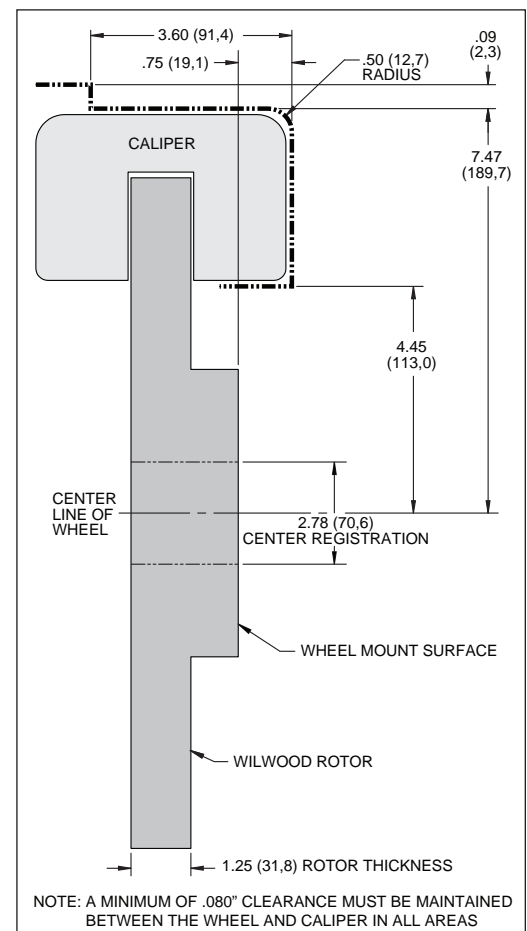

Figure 2. Wheel Clearance Diagram
•Verify your wheel clearance using figure 2.